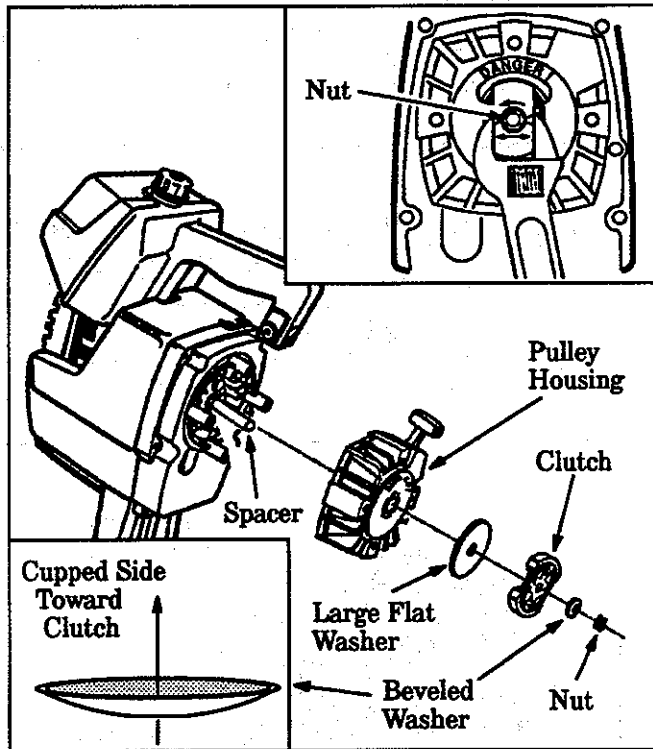

Figure 27
5. Hold the "Flats" of the clutch with an adjustable wrench as shown in Figure 27 (inset) and remove the Nut counterclockwise with a 9/16" socket wrench.
6. Remove the Beveled Washer, Clutch, and Large Flat Washer as shown in Figure 27 .
7. Remove the Pulley Housing from the Engine. Figure 27 .
21. Make sure Spacer is in place as shown in Figure 27, then reverse steps 1 through 7 to re-assemble.
CAUTION: When reinstalling the clutch, install the beveled washer as shown in Figure 27 (inset, lower left) and tighten the nut until the beveled washer is flattened against the clutch. Over or under tightening the nut can cause engine damage.